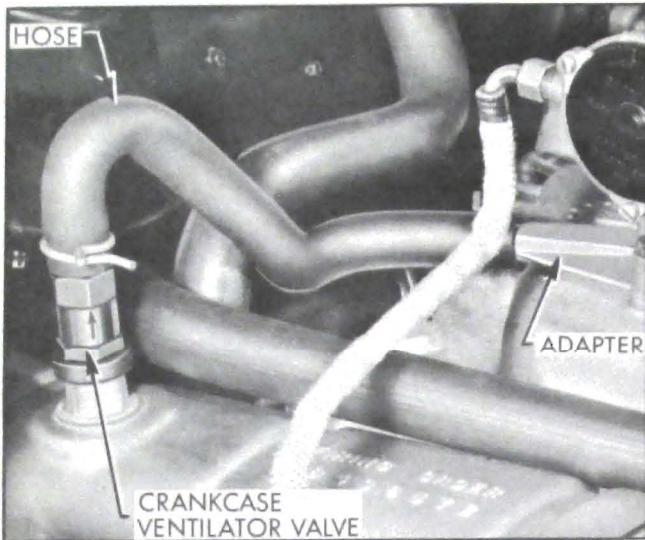

Figure 1-11—Positive Crankcase Ventilator Valve
1. Expand hose to check valve clamp and move up on hose. Pull hose off valve and pull valve out of grommet in rocker arm cover. See Figure 1-11.